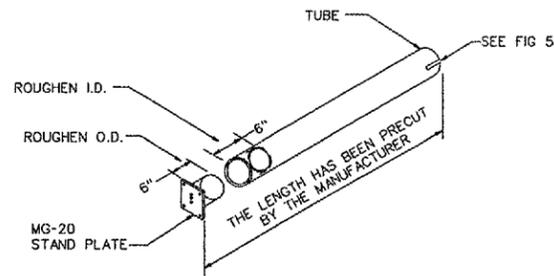

FIGURE 1. MG-20 MAST
- BONDING INSTRUCTIONS: SEE FIG. 1. FOR BONDING, ROUGHEN SURFACES TO BE BONDED, AS SHOWN IN FIG. 1 USING EMERY CLOTH. CLEAN ROUGHENED SURFACES THOROUGHLY WITH A SOLVENT (TRICHLOROETHYLENE OR ACETONE). MIX EQUAL PARTS OF FUSOR 304-1 EPOXY RESIN AND 304-2 HARDENER. (BOTH CONTRACTOR FURNISHED). STIR THOROUGHLY BUT AVOID AIR INCLUSION. FOR EACH JOINT TO BE BONDED, SPREAD A LIGHT COAT OF MIXED ADHESIVE ON BOTH THE SURFACES TO BE BONDED. FOR MG-20: SLOWLY SLIDE POLE ONTO STAND PLATE WHILE ROTATING IT TO EXCLUDE AIR. CURE 48 HOURS AT ROOM TEMPERATURE ABOVE 67 DEGREES FARENHEIT AS REQUIRED.